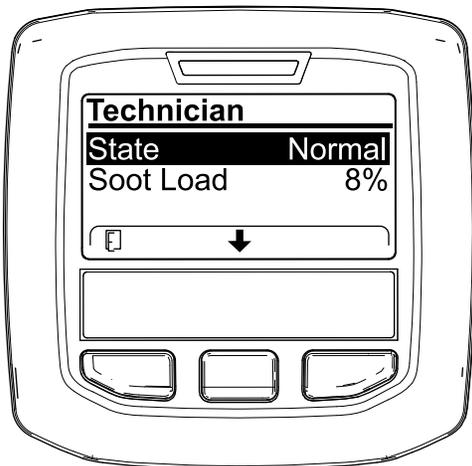

Figure 62
- Use the DPF operation table to understand the current state of DPF operation (Figure 62).